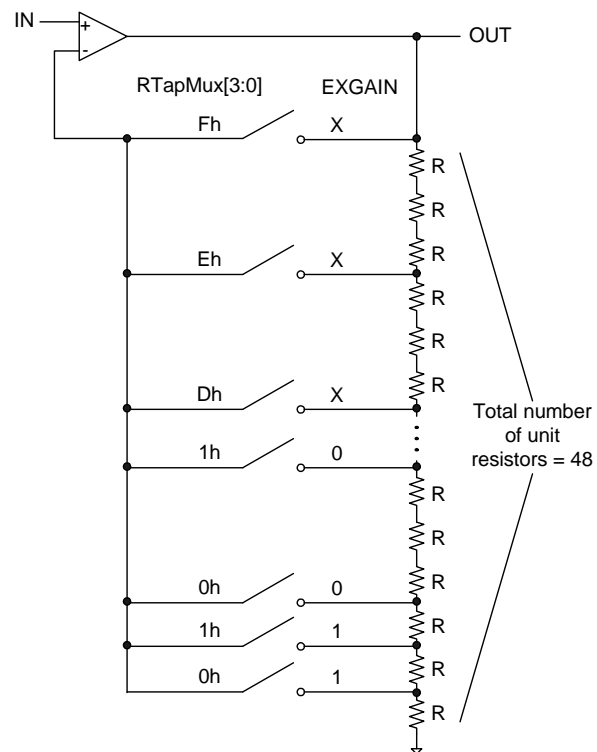

Figure 22-4. CT Block in Gain Configuration
**Bit 0: EXGAIN.** The continuous time block's resistor tap is specified by the value of ACBxxCR3 EXGAIN, combined with the value of ACBxxCR0 RtapMux[3:0]. For RtapMux values from 02h through 15h, the EXGAIN bit has no effect on which tap is selected. (See the ACBxxCR0 register for details.) The EXGAIN bit enables additional resistor tap selections for RtapMux = 01h and RtapMux = 00h (see Figure 22-4).